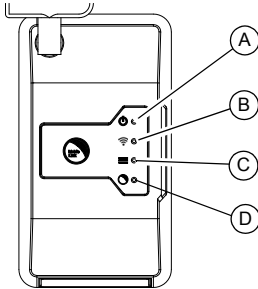

Figure 3-11. Mobile Link Cellular LEDs
2. See Figure 3-11. Cellular Network LED (B) and Connection to Controller LED (C) remain dark until registration is complete. The following events then occur:
- Cellular Network LED (B) flashes when unit connects to the Verizon network.
- Connection to Controller LED (C) flashes and eventually illuminates steadily when unit connects to Generac servers.